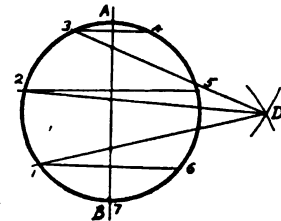

Fig. 57.
**Problem 9.** To divide a circle into any number of equal parts. (Fig. 57). Let the number of the required parts be seven. Using Problem 4, divide the diameter AB into as many equal parts as are required, in this case seven parts. With the radius AB and centers at A and B draw two arcs that intersect at D. From D draw straight lines through alternate points on the diameter to cut the circle at 1, 2 and 3. From these points project across the circle giving the seven equal parts required. This method is approximate.